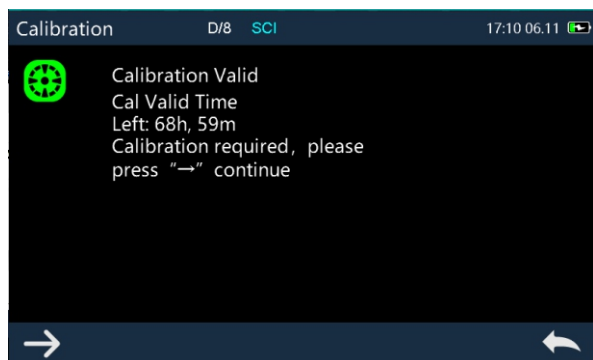

Figure 4 Black and White Calibration
2. In the main menu to click “Calibration” to enter white and black calibration interface as shown in Figure 4. It will show whether the calibration is valid or not and how long the remaining time is.
After black and white calibration are finished rightly, the instrument system will reset remaining time according to valid time after last calibration (As shown in Figure 4)